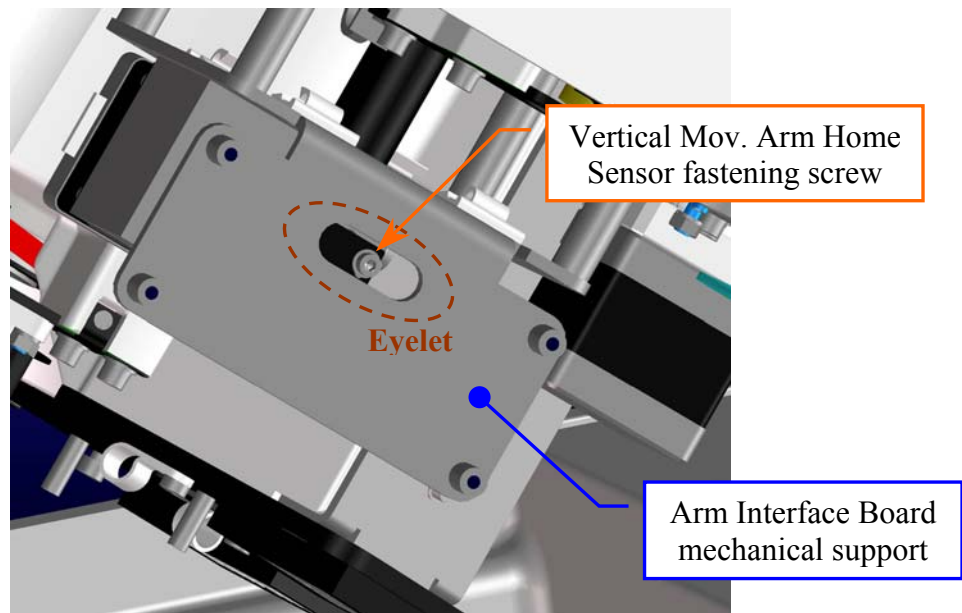
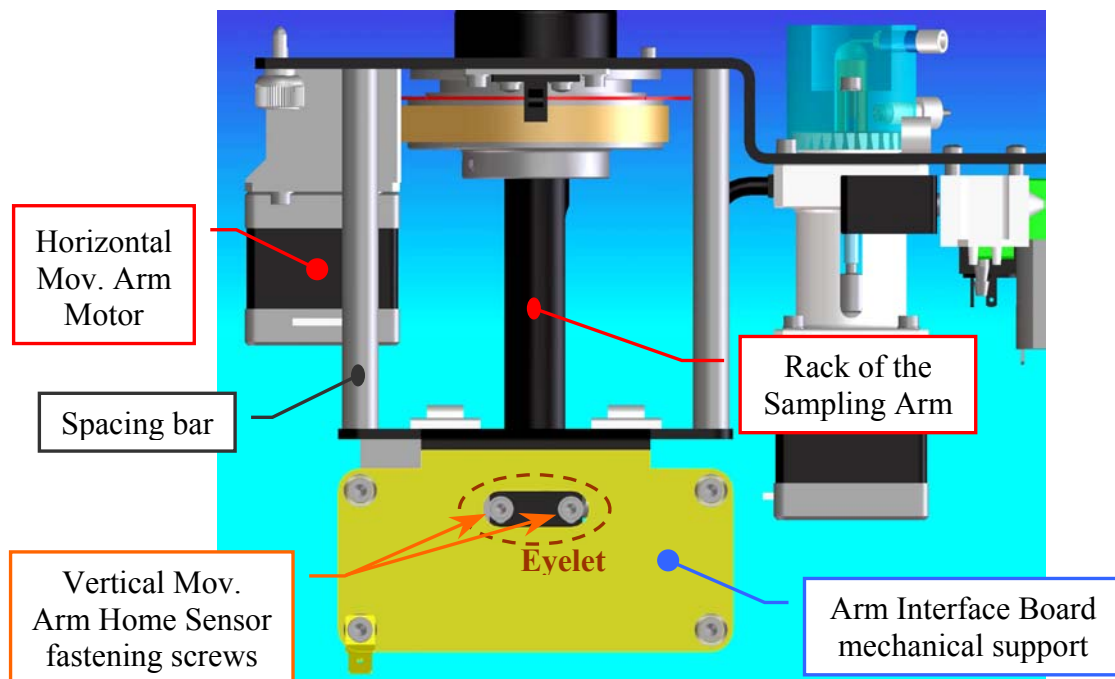

Fig. 26 – Arm Interface Board mechanical support
Fig. 27 – Vertical Mov. Arm Home Sensor fastening screws
5. Introduce the setscrew wrench in the eyelet of the Arm Interface Board mechanical support (**Fig. 26**), unscrew the two fastening screws of the Vertical Mov. Arm Home Sensor (**Fig. 27**) and take out it from its housing.